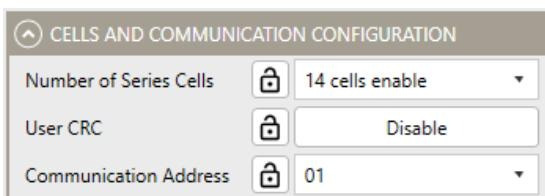

Figure 7: Cells and Communication Configuration
1. Figure 7 shows the Cells and Communication Configuration settings in the GUI.